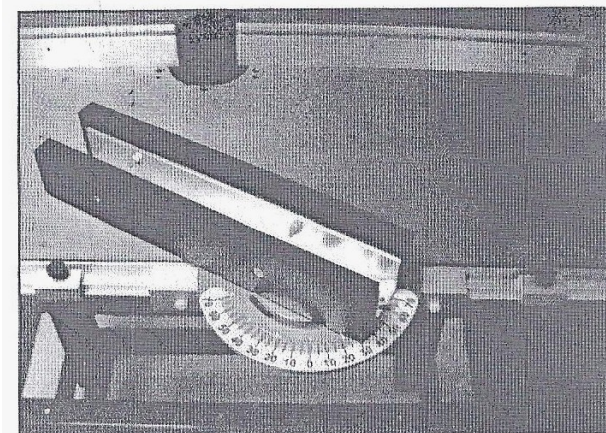

Figure 17. Miter gauge and stops
- The unit is shipped with two miter gauge stops that can be attached to the front rail (Figure 17).